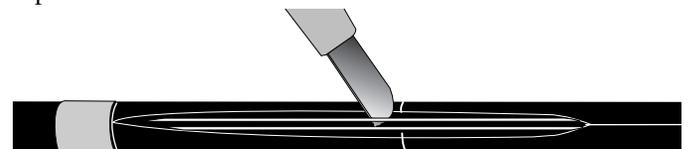

Figure 21
6.10 Using the cable knife, separate the two GRP rods from the jacket at the 15 cm ring cut. Use caution when inserting the cable knife under the GRP rods to avoid damaging the central tube (Figure 21).